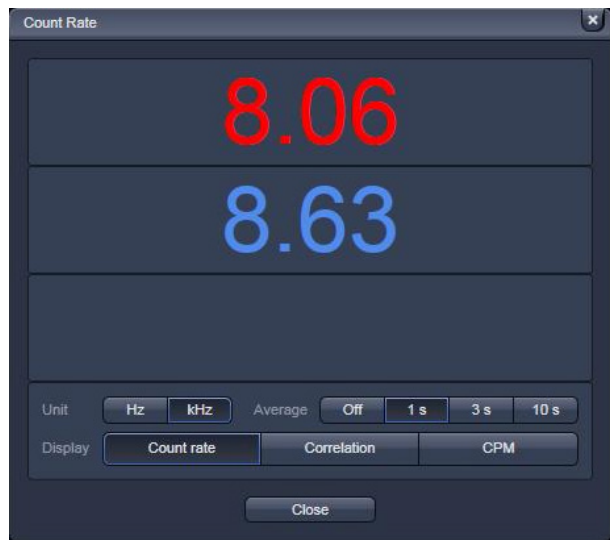

Fig. 339 Count rate window with count rate display
- Click the **Count rate** button to open the **Count rate** window (Fig. 339).
- Click the **Count rate** button in the **Display** line to display the count rate per second (CR) for each activated physical channel (Fig. 339). This value is constantly updated and calculated each 0.5 ms, if **Averaging** is switched **Off**. If system overload occurs, an error message will be displayed and the APDs switched off in order to avoid damage (Fig. 340). Press **Ok** to continue and laser light intensity or concentration of your sample.